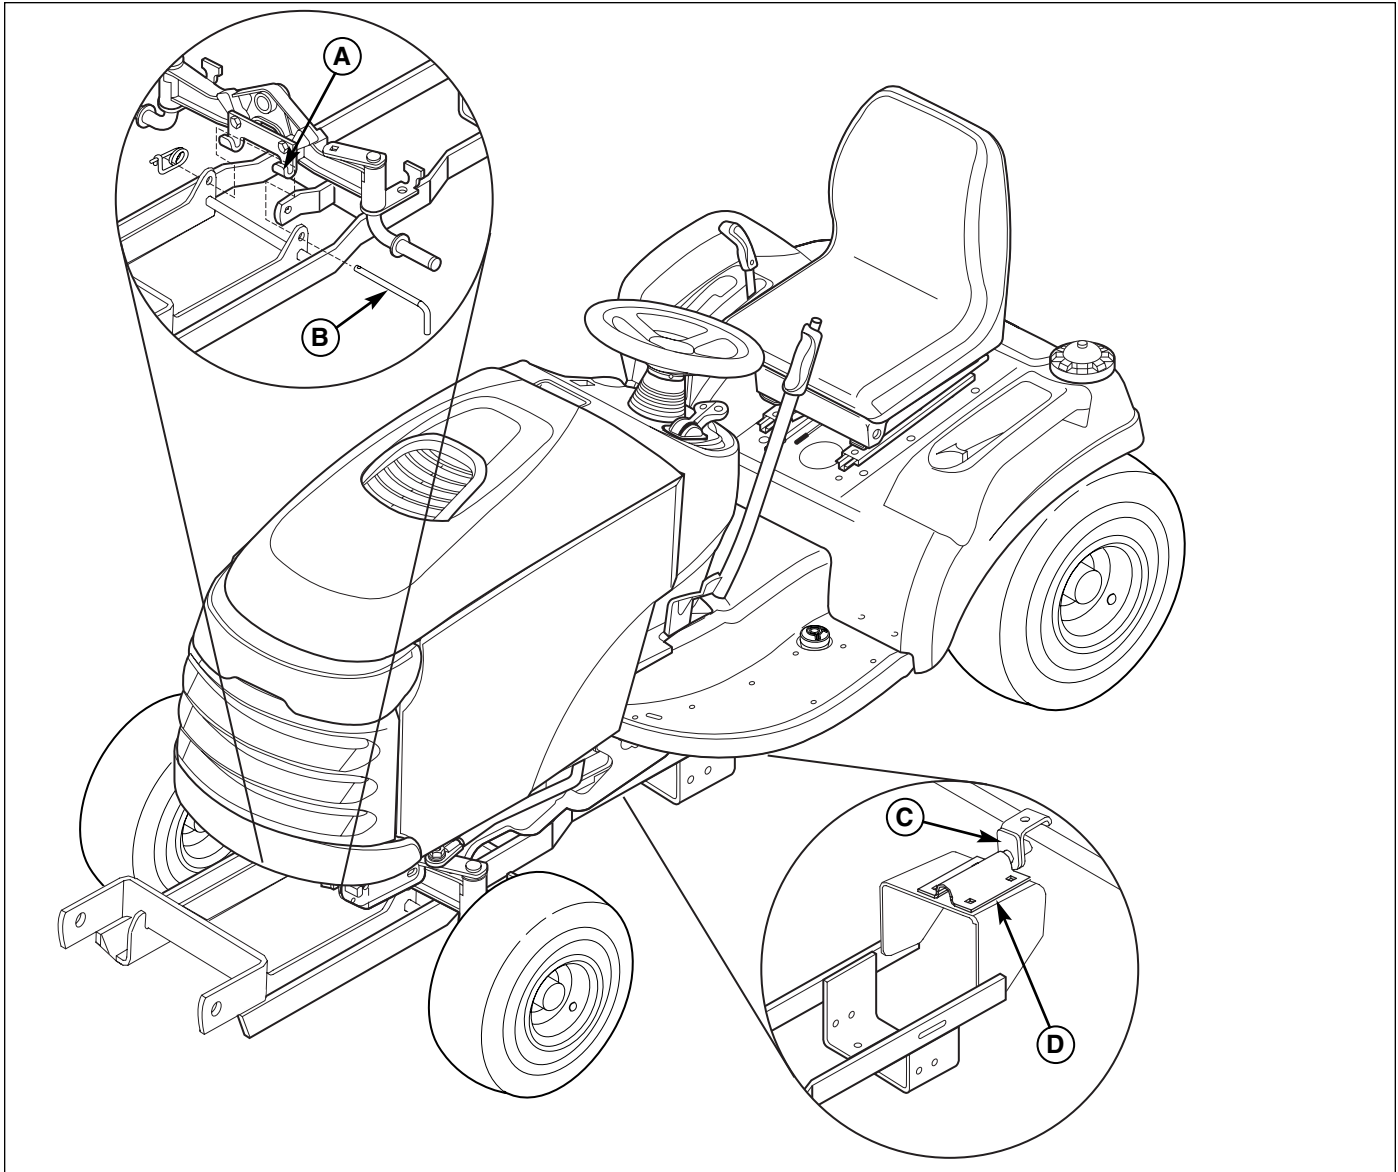

Figure 11. Install Hitch
2. Raise the rear of the hitch and place the hook (C) over the lift shaft.
3. Turn the steering wheel fully to the right. Connect the front of the hitch to the tractor J-hooks (A, Figure 11) using the hitch rod (B) and a safety clip.
4. Push the clamp plate (D) backwards until the hook (C) is snug against the lift shaft. Tighten the clamp plate hardware.